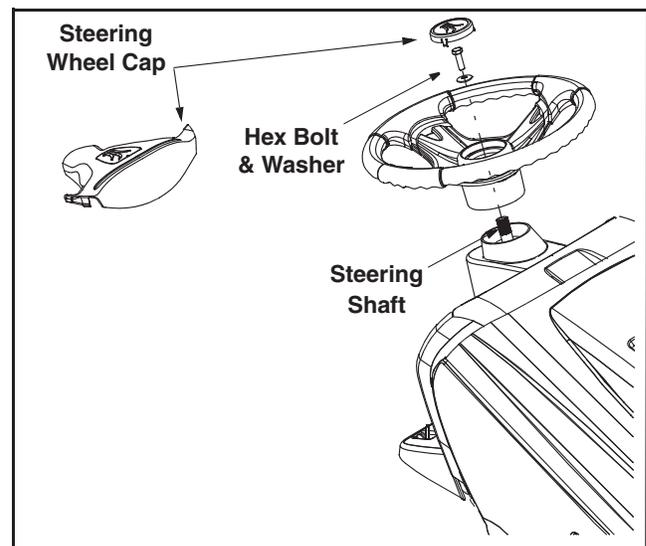

Figure 2
**NOTE:** There are two different styles of steering wheel cap. See Figure 2. **Styles vary by model.**
- Reinsert the steering wheel cap in the center of the steering wheel. Refer to Figure 2.